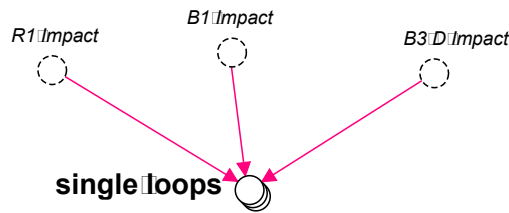

Figure 35: Connect impacts to "single loops"
- Ghost and connect the 3 impact converters from step 3 to *single loops*, Figure 35